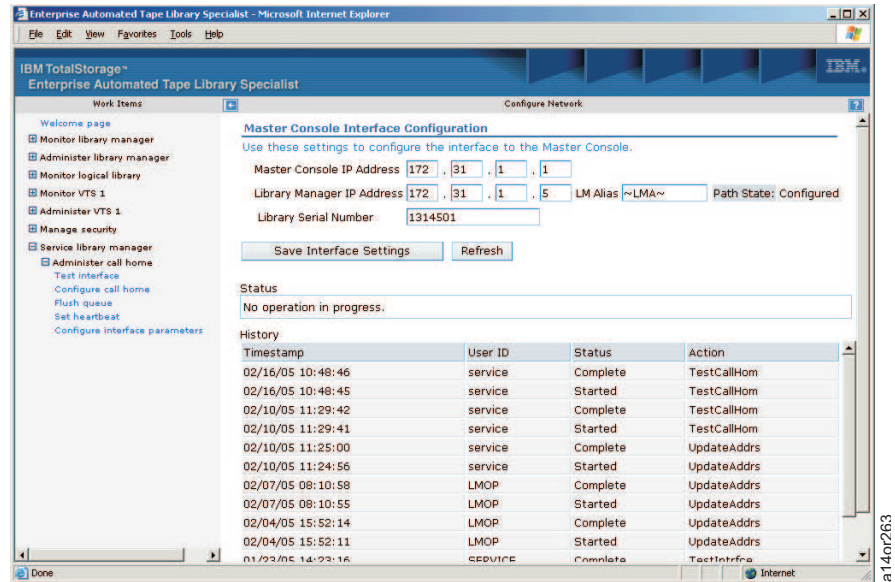

Figure 58. 3494 ATL Web Specialist - Configure Interface Parameters
1. From the "Administer call home" list on the Web Specialist screen (Figure 53 on page 43), click **Configure Interface Parameters** to see Figure 58 on page 47. If you are prompted for a userid and password, use the default values of **service** for the userid and **service** for the password. These values can be changed by the 3494 ATL system administrator.